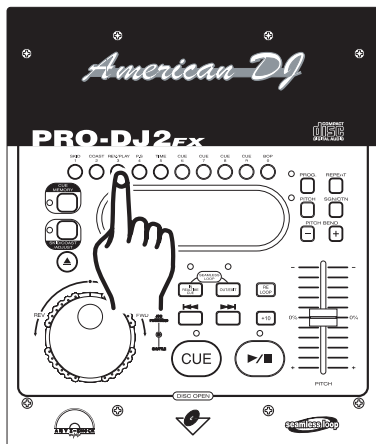

Figure 34
Reverse play allows you to play a track, loop, or sample backwards. This function is activated by pressing the *REV/PLAY BUTTON* (3) as in figure 34. This function will react differently to different playback modes: